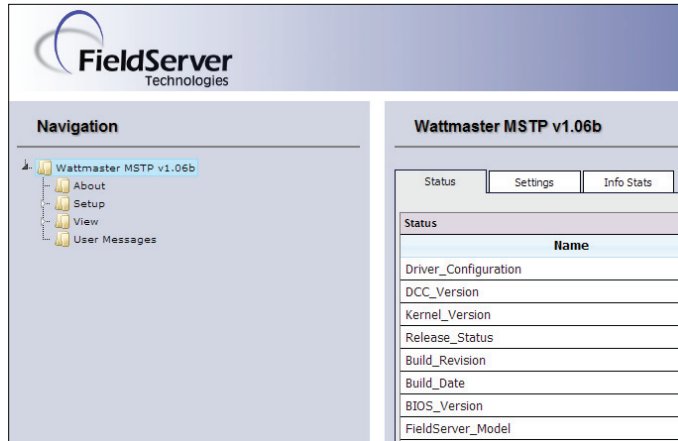

Figure 12: The FS-GUI Main Screen
2.) Open your web browser, and type the IP Address of the PT-Link, which defaults to **<192.168.1.24>**, and press **<ENTER>**. The GUI will launch. Click **<Diagnostic and Debugging>**. The Main Screen will appear. See Figure 12.